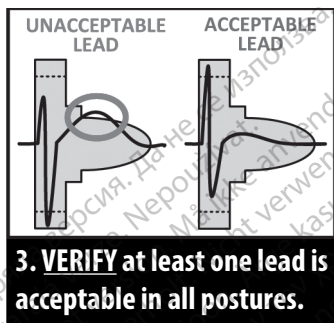

Figure 4. Evaluating the QRS Complex
- Evaluate** the QRS complex. If the entire QRS complex and trailing T-wave are contained within the colored profile, the QRS is deemed acceptable. If any portion of the QRS complex or trailing T-wave extends outside of the colored profile, the QRS is deemed unacceptable (Figure 4 Evaluating the QRS